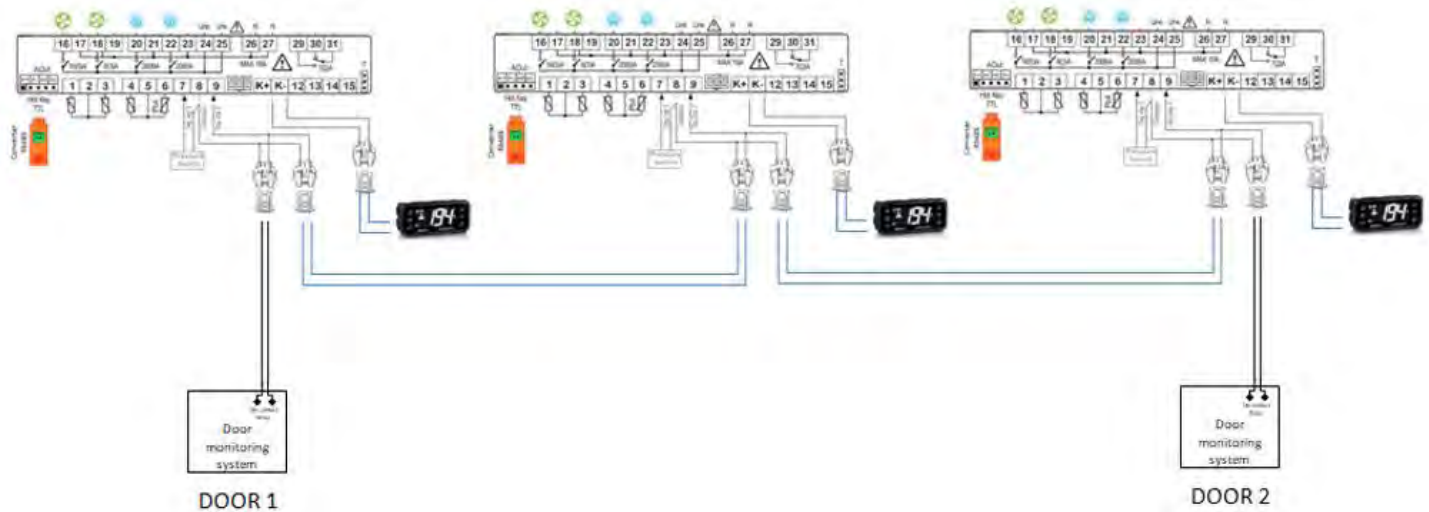

Figure 16 - Door Switch Parallel Connection
The door switch can be connected in the digital input 2. Two parallel JST XMR-02V receptacles are available for convenience. Use a dry contact (I/O) from the door switch as a signal in the first unit and then interconnect the units by the parallel receptacle using a proper wiring cable (supplied as an accessory). These can be connected in series or in parallel if two doors are available. For more than two doors, use series only connections. See option of door switch alarm connections below (Figures 16 and 17). If no door switch is used, the digital input (2) must be changed from “dor” to “nu” by parameter “i2F”.